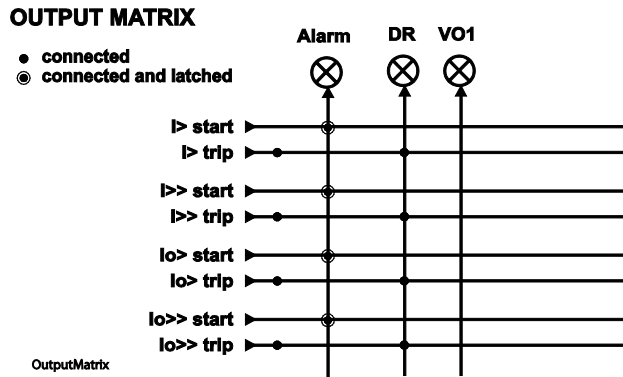

Figure 4.4-1 Output matrix.
There is one LED indicator named "Alarm" on the front panel. In addition, the triggering of the disturbance recorder (DR) and virtual outputs are configurable in the output matrix. See an example in Figure 4.4-1.